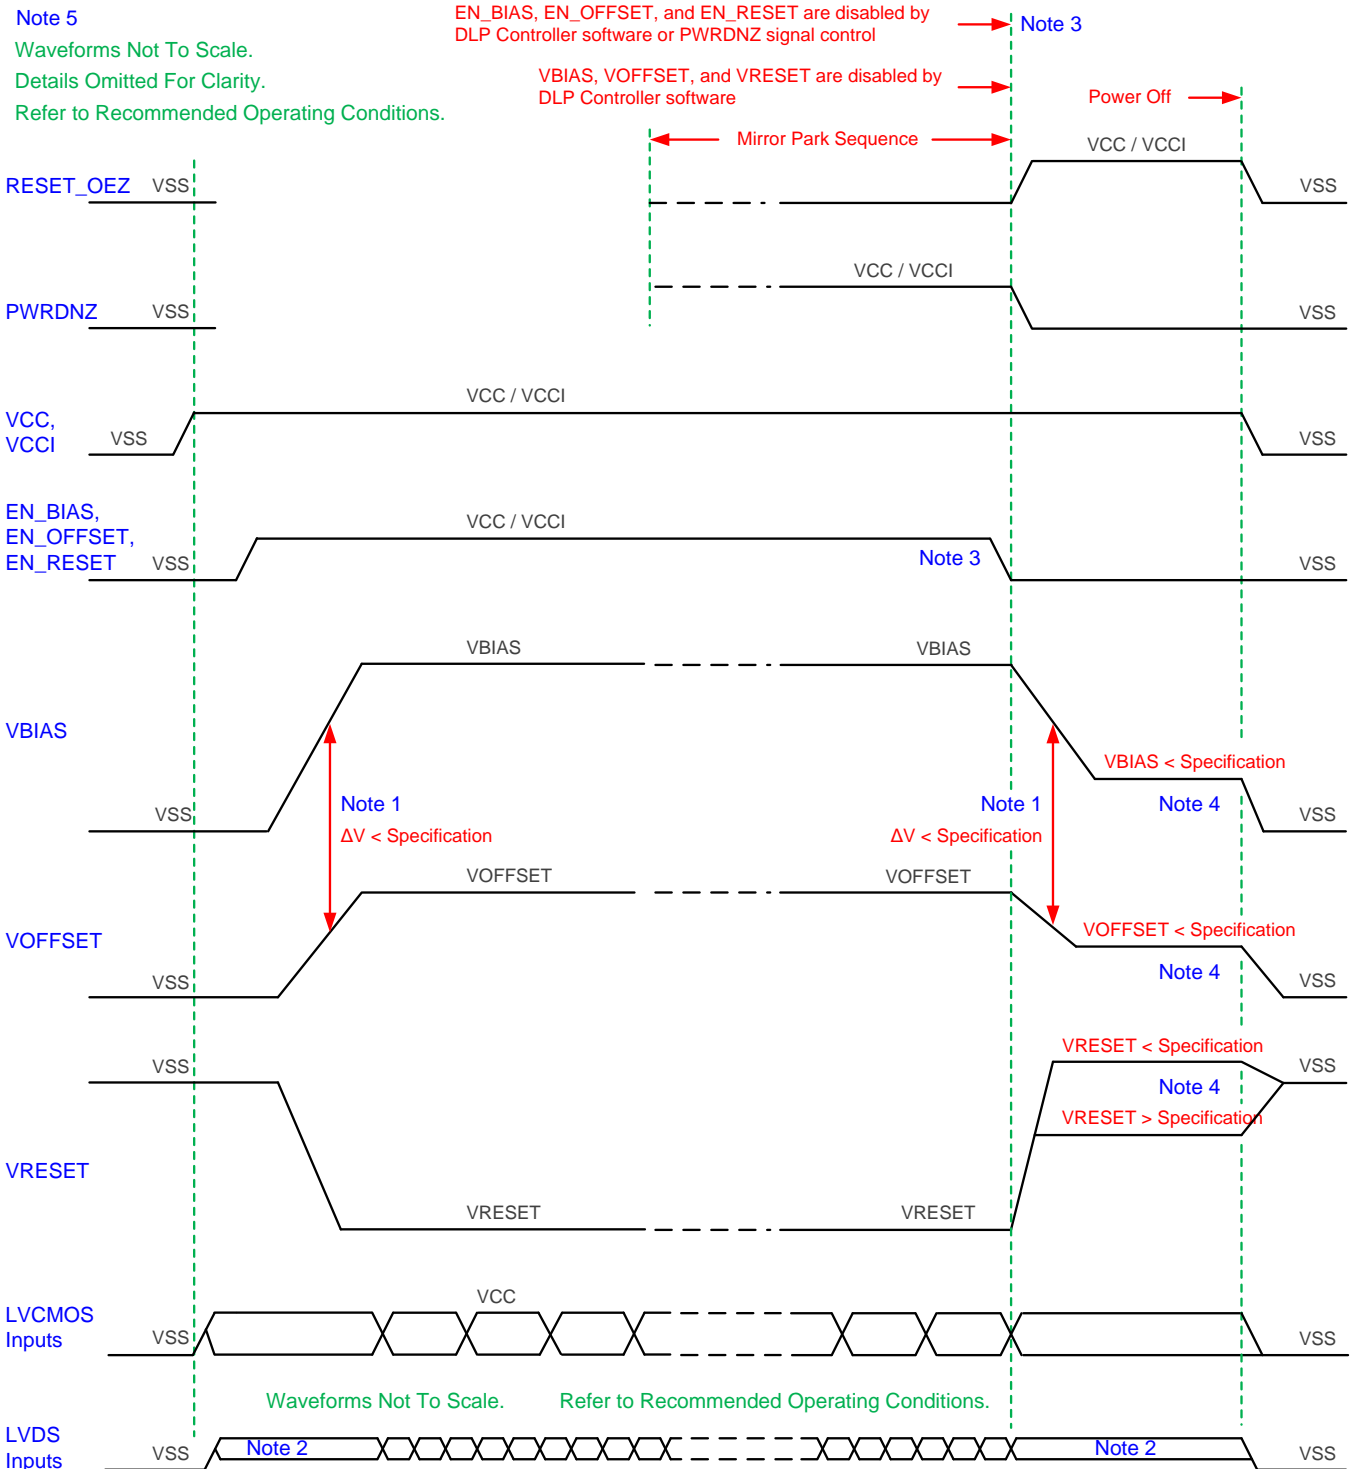

Figure 17. DMD Power Supply Sequencing Requirements
For reliable operation of the DMD, the following power supply sequencing requirements must be followed. Failure to adhere to the prescribed power-up and power-down procedures may affect device reliability. VCC, VCCI, VOFFSET, VBIAS, and VRESET power supplies have to be coordinated during power-up and power-down operations. VSS must also be connected. Failure to meet any of the below requirements will result in a significant reduction in the DMD's reliability and lifetime. Refer to Figure 17.
- Power supply slew rates during power-up are flexible, provided that the transient voltage levels follow the requirements listed in Absolute Maximum Ratings, in Recommended Operating Conditions, and in Figure 17.
- Power supply slew rates during power-down are flexible, provided that the transient voltage levels follow the requirements listed in Absolute Maximum Ratings Absolute Maximum Ratings, in Recommended Operating Conditions, and in Figure 17.